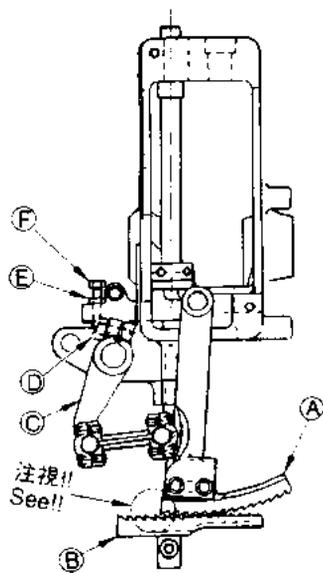
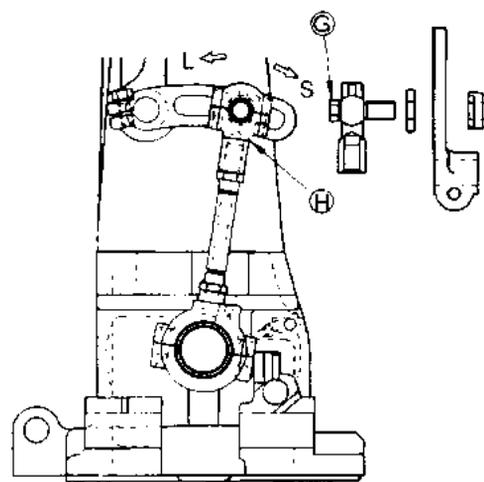

Fig.16
Fig.17
4-11. Setting the Upper Feed Dog (Fig.16 Fig.17)
- 1) Loosen the screw ⑥ on the drive lever ⑤. Adjust the upper feed dog ④ so that the tip of its heel meet the middle position between the 5th tooth and 6th tooth from the rear on the lower feed dog ③. (Fig.16 marked See!!)
- 2) The upper feed dog moves along by the ditch in the presser foot. The upper feed dog ④ must be in the lowest position when the lower feed dog ③ is in the highest position. At this time, a bit clearance should exist between the upper and lower feed dog. Never push each other the upper feed dog and the lower feed dog.
- 3) To adjust the bit clearance between the upper and lower feed dog, Loosen nut ⑦ and adjust by the screw ⑧. After the adjustment tighten nut ⑦. (Fig.16)
- 5) Loosen the ball stud ⑨. Pull the drive eccentric upper to this side (S) in order to decrease the stroke, push it to opposite side (L) in order to increase the stroke. (Fig.17)
4-11. 上送り金の設定 (Fig.16. Fig.17)
- 1) 上送り金④の位置は、Fig.16で示す通り上送り金の歯が、下送り金歯の歯の5枚目と6枚目の中間にくるよう上送りレバー⑤のネジ⑥を緩めて調整してください。(注視参照)
- 3) 上送り金と下送り金との隙間調整は、Fig.16のナット⑦を緩めてネジ⑧を廻して調整してください。
- 5) 調整はFig.17のボールネジ⑨を緩め上送りロッド⑤を手前に動かす(S方向)と送り量は細くなり、逆に動かす(L方向)と粗くなります。